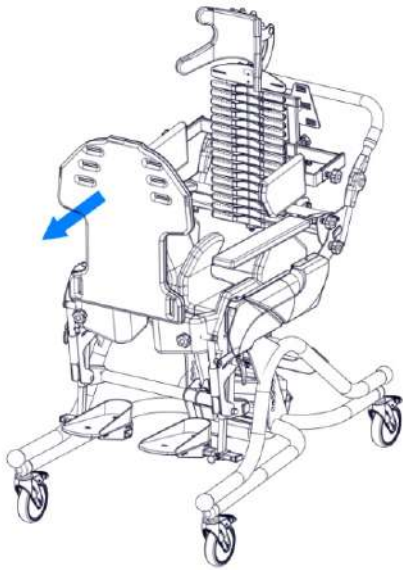
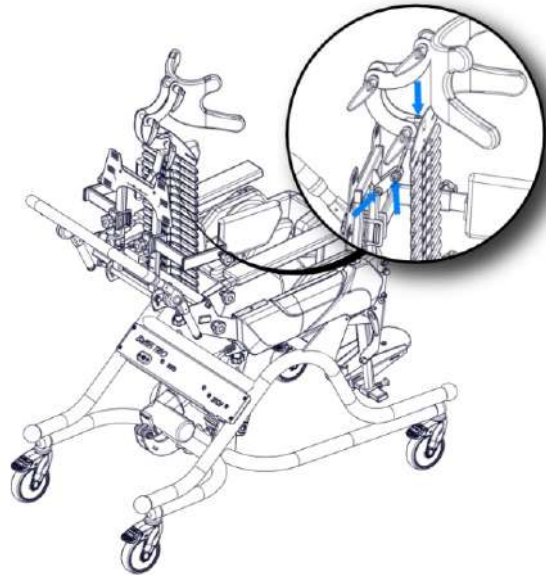

Fig. 34
Fig. 35
To adjust the backrest, loosen by Allen key 6mm the adjustment screws (Fig. 35) and after obtaining the appropriate shape, tighten the adjustment screws. To get a more precise modeling of the shape of the back, detach the back cover from the central spine, which is assembled by means of hook and loop tape (Fig. 34).